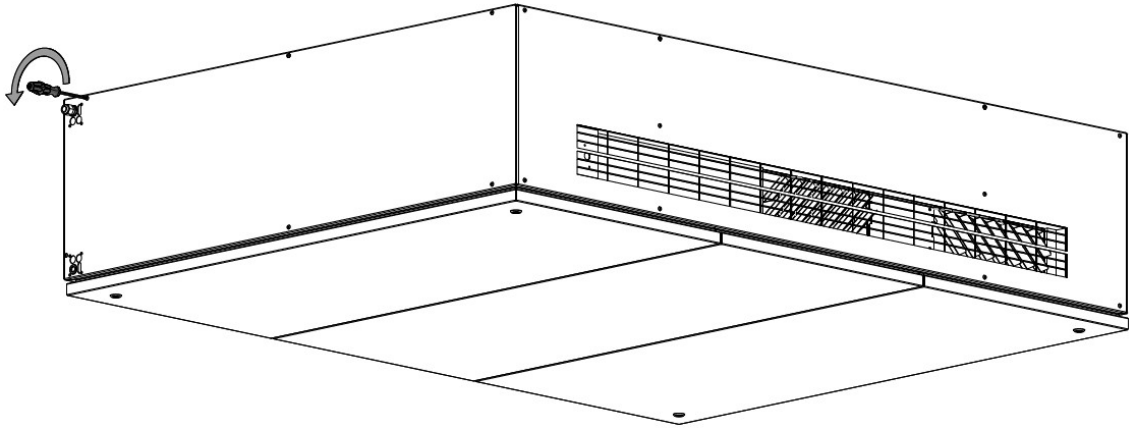

Figure 8: Disassemble the left-hand side cover
1. Disassemble the left-hand side cover, see Figure 8. Carefully place the cover on a protective underlay to prevent scratches to the surface.